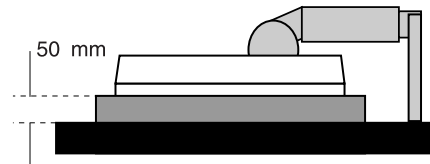

Figure S.1
3. Place monitor face down on a non-abrasive surface (Place the screen on a 50 mm platform so that the stand is parallel with the surface.) (**Figure S.1**).